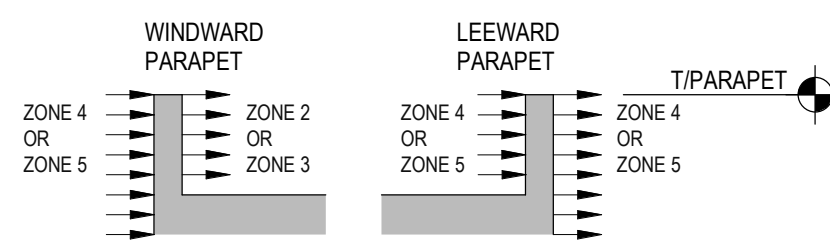

FIGURE 1: PARAPET
- PARAPETS SHALL BE DETERMINED FROM FIGURE 1 & OVERHANGS FROM FIGURE 2.